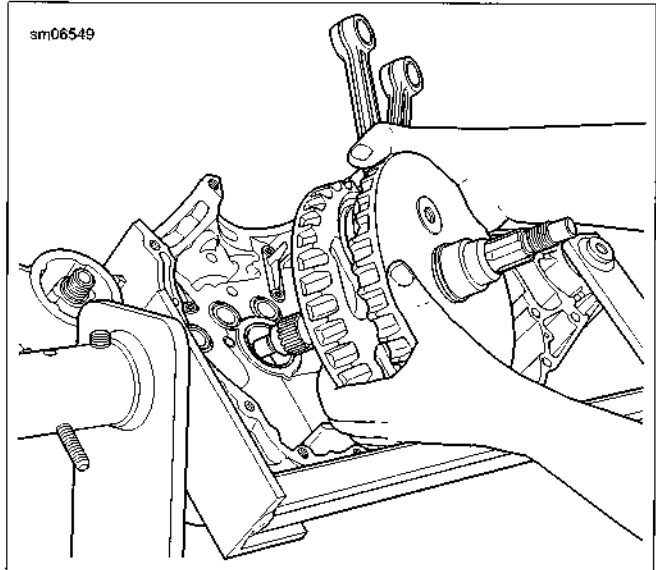

Figure 5-69. Installing Flywheel Assembly In Right Crankcase
- See Figure 5-69. Install flywheel assembly into right crankcase half.